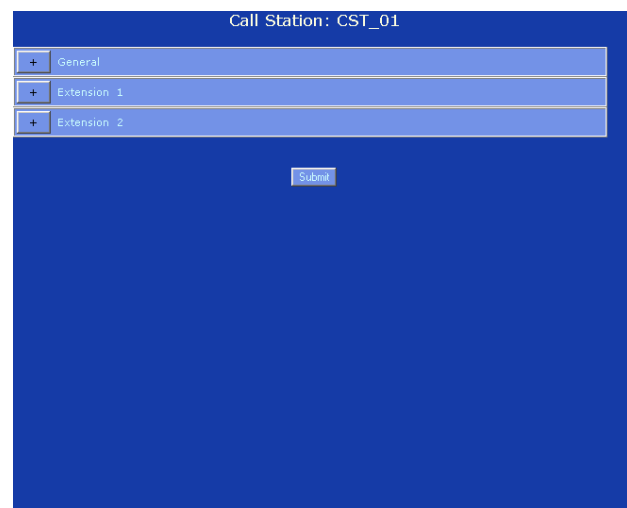

figure 38.15: Call activation key, step 2
- 2 Click the name of the call station to which the keypad of which the key that must be configured has been connected. A screen similar to the one in figure 38.15 appears in the main frame of the web interface